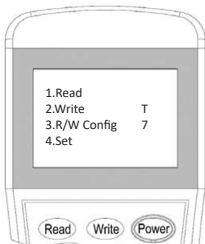
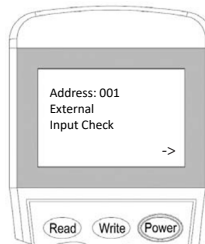

Figure 16
Figure 17
2. Switch-on the programming tool, then press button **“Read”** or **“1”** to enter to Read mode (Figure 16). The programming tool will display the configuration after few seconds. (Figure 17).